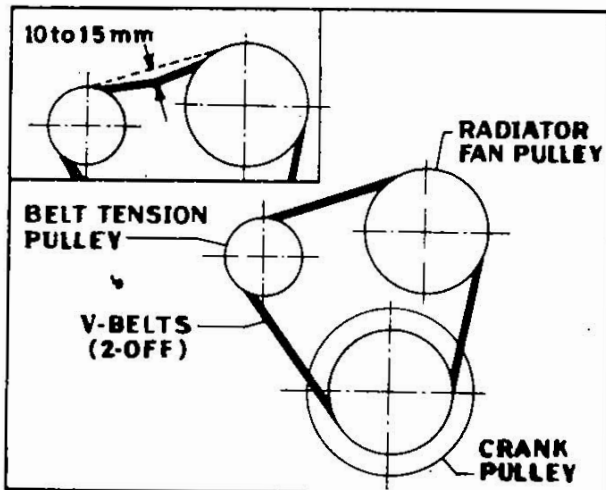

Fig.3.27
b) Check by pressing with the thumb midway between the pulleys to see whether the V-belt deflects inwards by not more than 10-15mm. (Fig.3-27).
*2- 'V' belts are used to drive the radiator fan (Fig.3-27) from crank-pulley together with belt tensioning unit.